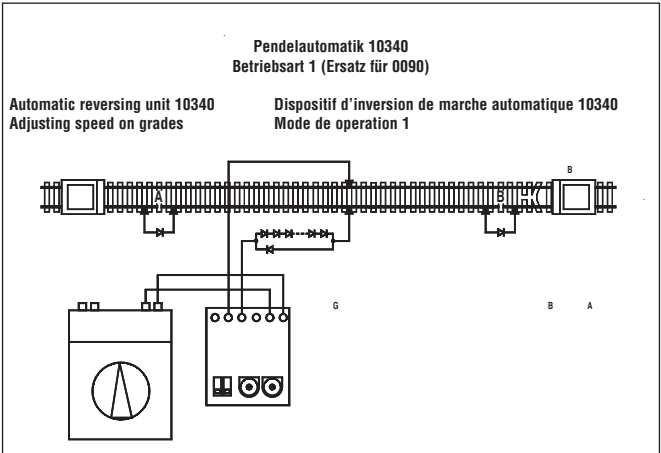

Fig. 5
1. Install an additional insulated track section (for example, 10153) between the original insulated track sections (Fig. 5).